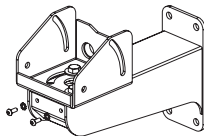

Figure 19
5. After achieving the desired pan angle, tighten down the (2) 3/8" hex head bolts. Complete steps 11-16 of the BMT10 Installation instructions).
7. After the housing is installed the wall mount access cover can be reinstalled (Figure 19).